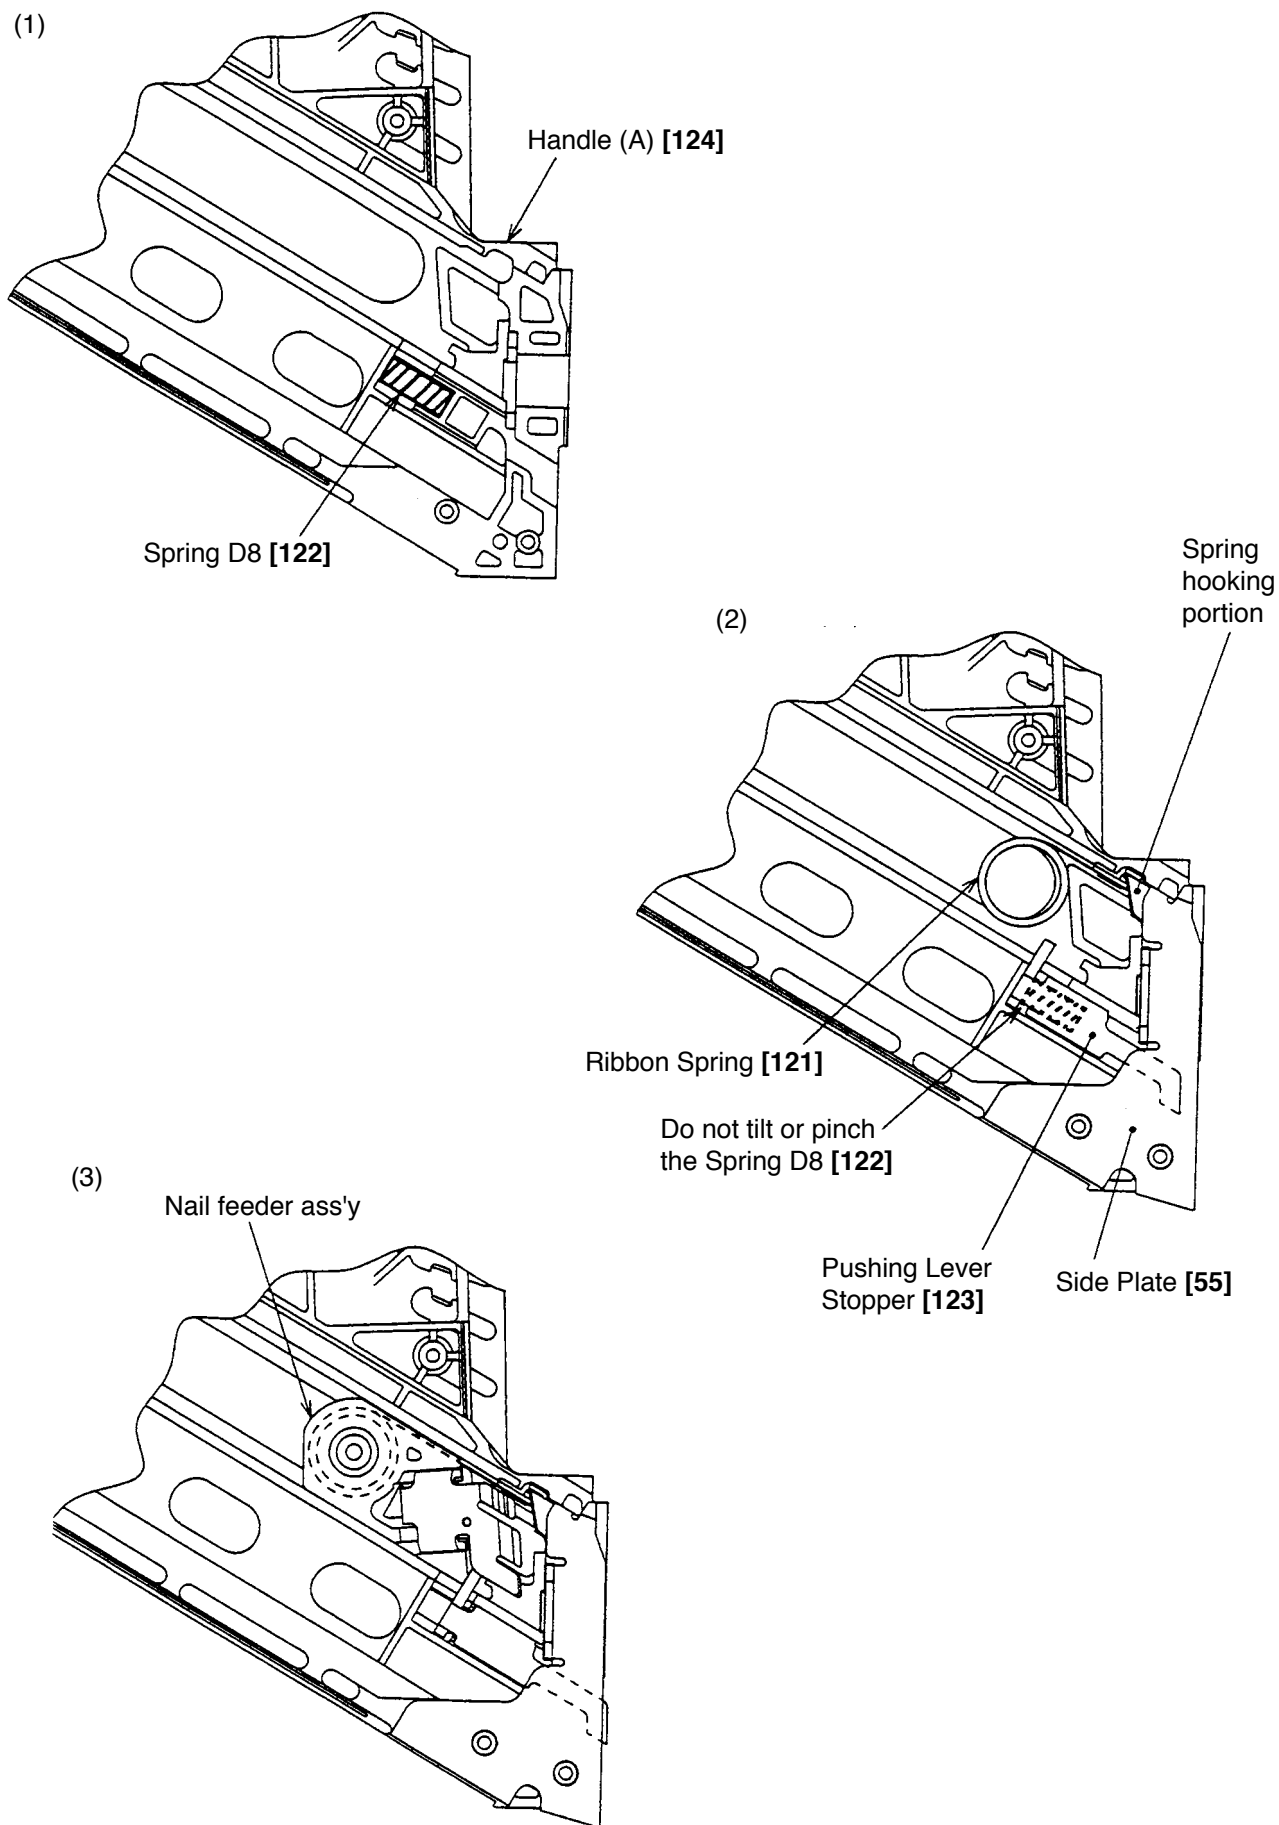
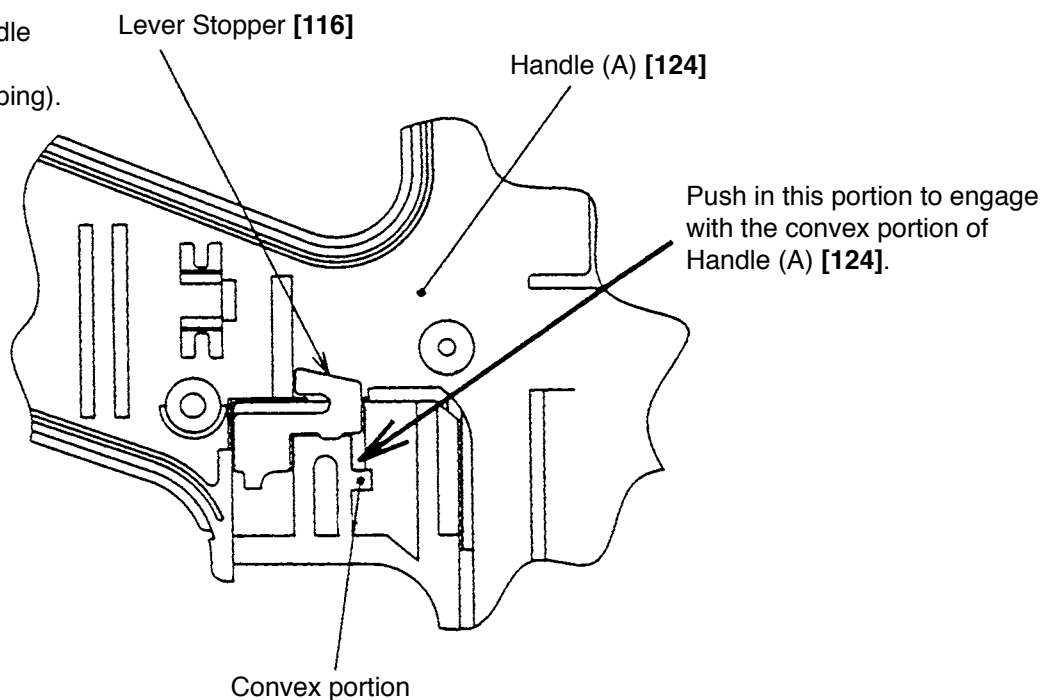

Fig. 53
Fig. 54-1
- See Fig. 53.
- (1) Fit the Spring D8 [122] in Handle (A) [124].
- (2) Set the Pushing Lever Stopper [123] on the Spring D8 [122]. Do not tilt the Spring D8 [122] or insert the Pushing Lever Stopper [123] into the Spring D8 [122]. Check that the Pushing Lever Stopper [123] moves smoothly. Keep holding the Pushing Lever Stopper [123] with fingers until the Side Plate [55] is mounted because the Pushing Lever Stopper [123] is apt to be removed. Set the Ribbon Spring [121] to Handle (A) [124]. Mount the Side Plate [55] to Handle (A) [124] with the spring hooking portion of the Side Plate [55] engaged with the hook of the Ribbon Spring [121].
- (3) Insert a finger into the coil portion of the Ribbon Spring [121] from the front of Handle (A) [124]. Stretch the coil portion in the nail feeder pulling direction. Then set the nail feeder to the coil portion and return the nail feeder to the forward position slowly. Mount the Feeder Knob [125] to the nail feeder and tighten the Tapping Screw (W/Flange) D5 x 20 (Black) [126].
- Apply grease to the Lever Stopper [116] and mount it to the specified position on the handle. Push in the Lever Stopper [116] as far as it will go with a roll pin puller to engage with the convex portion of Handle (A) [124] (Fig. 54-1).